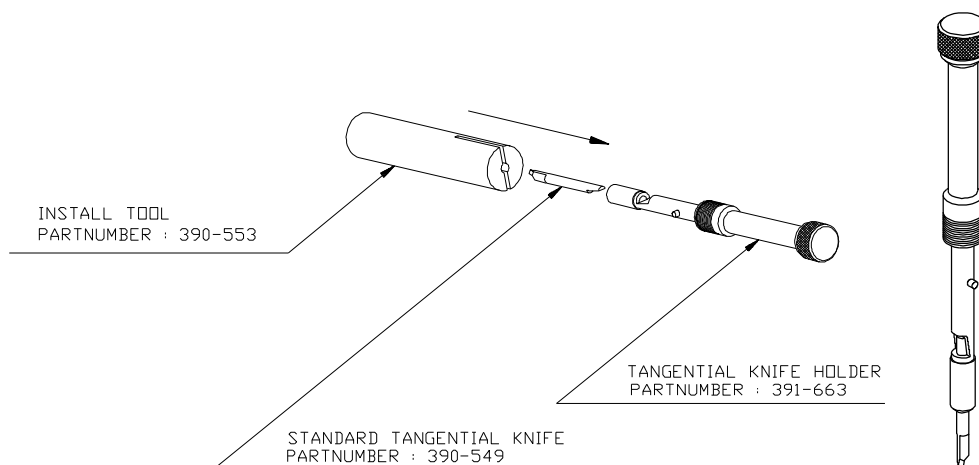

FIGURE 1-4 :
1. As shown in Figure 1-4, insert the standard knife blade p/n 390-549 into the knife holder. Make sure the knife blade is firmly fixed into the holder. The knife is firmly fixed when you can not remove it manually from the knife holder.